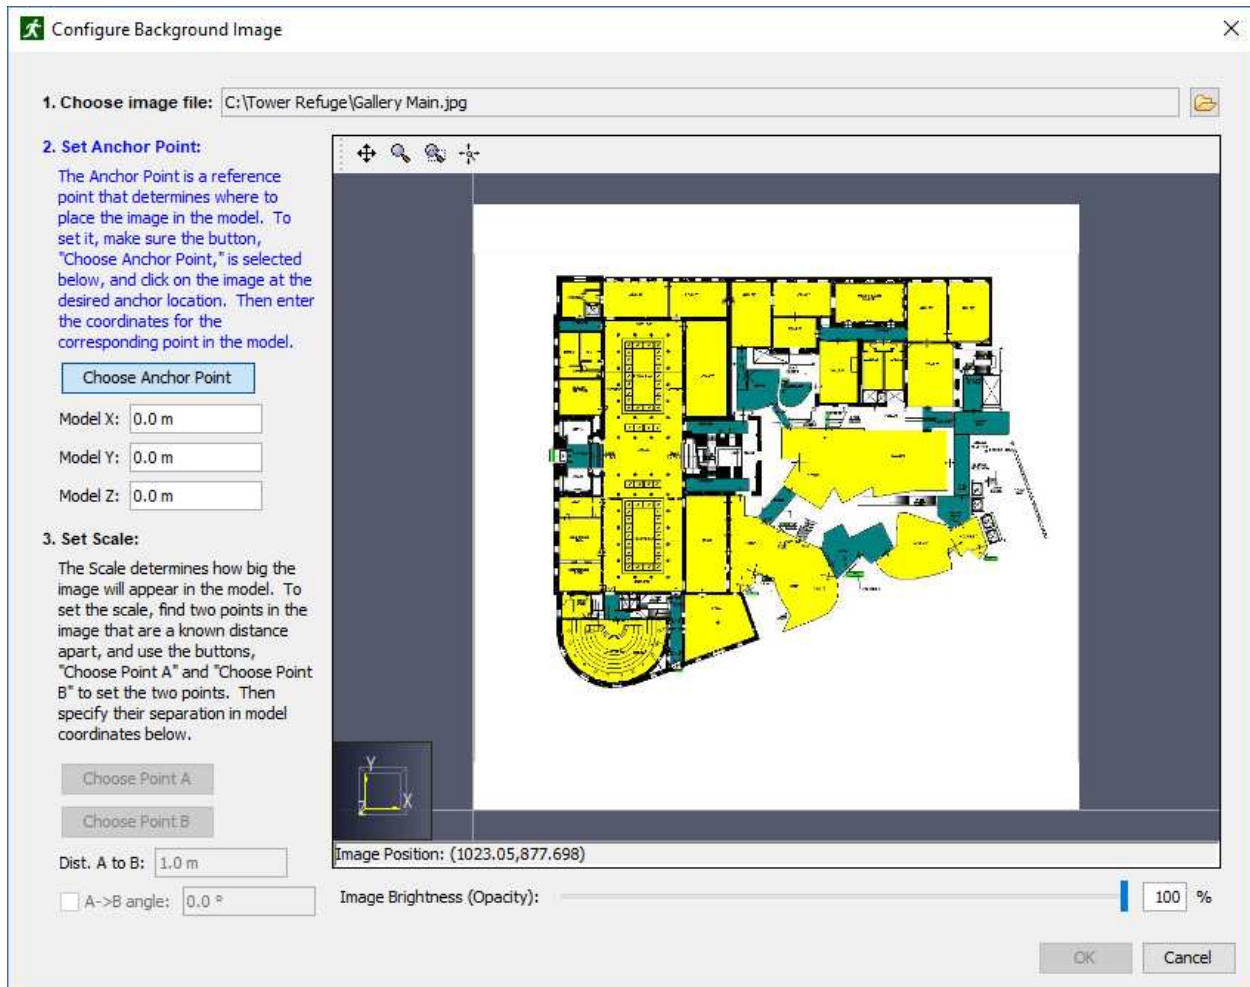

Figure 78. Set the anchor point
1. When clicked, a dialog will appear prompting for an image file. The following image formats are currently supported: BMP, GIF, JPG, PNG, and TGA. After a file is selected, a new dialog will appear as shown in Figure 78. This dialog allows properties of the image to be specified so that the proper scaling, rotation, and offset can be applied.